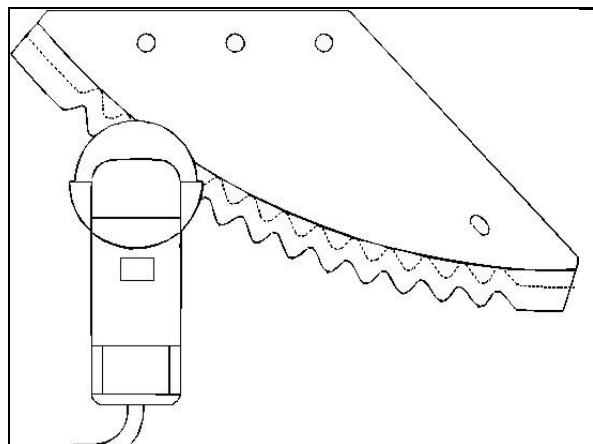

Fig. 260
- Use a right-angle grinder with a flap grinding wheel (Fig. 260) when grinding the cutting knives.